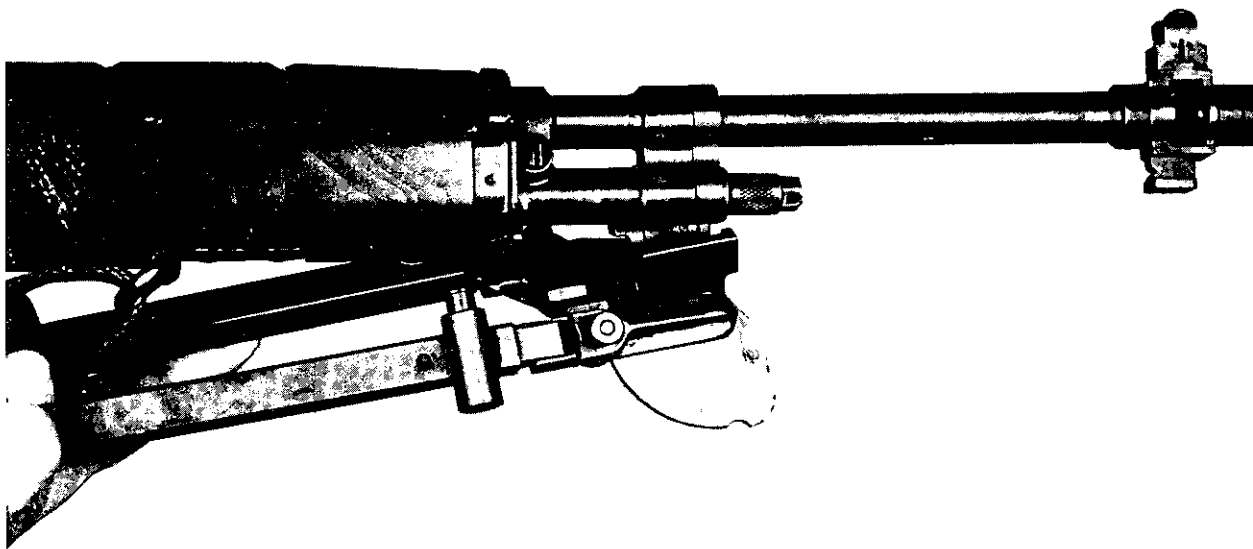

Figure 51. Installation of M2 bipod.
a. Installation (fig. 51). Place the jaws of the yoke assembly so that they encircle the gas cylinder at the gas cylinder lock. Tighten the self-locking bolt with the combination tool, securing the jaws to the gas cylinder.